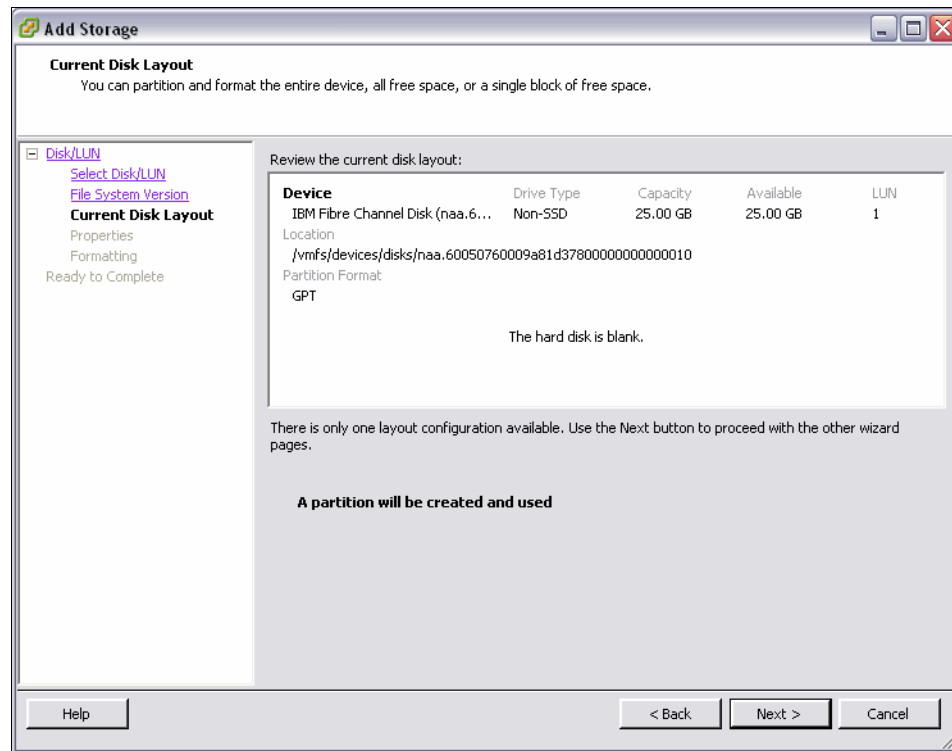

Figure 5-70 Current Disk Layout
11. Review the disk layout and click **Next**, as shown in Figure 5-70.